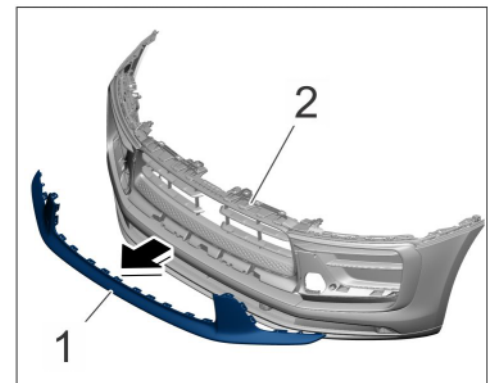

Figure 4
- 2.2 Remove nose panel (⇒ *Figure 4*). ⇒ *Workshop Manual '631619 Removing and installing nose panel'*